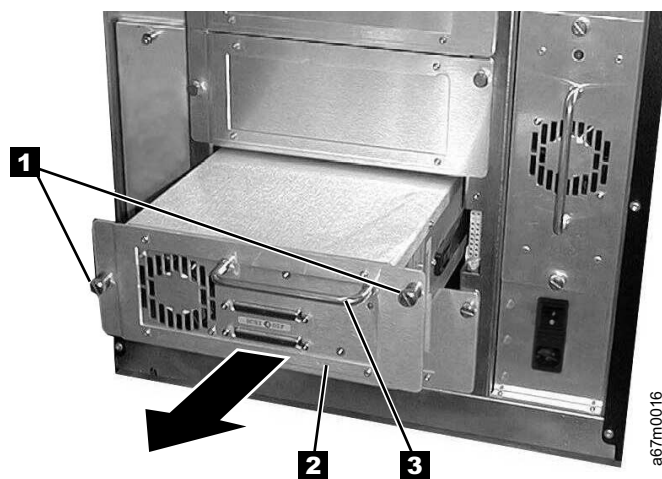

Figure 213. Removing the drive sled
5. Loosen the two captive thumbscrews (see **1** in Figure 213) on the drive sled **2** and slide the drive sled out by using the handle **3**.